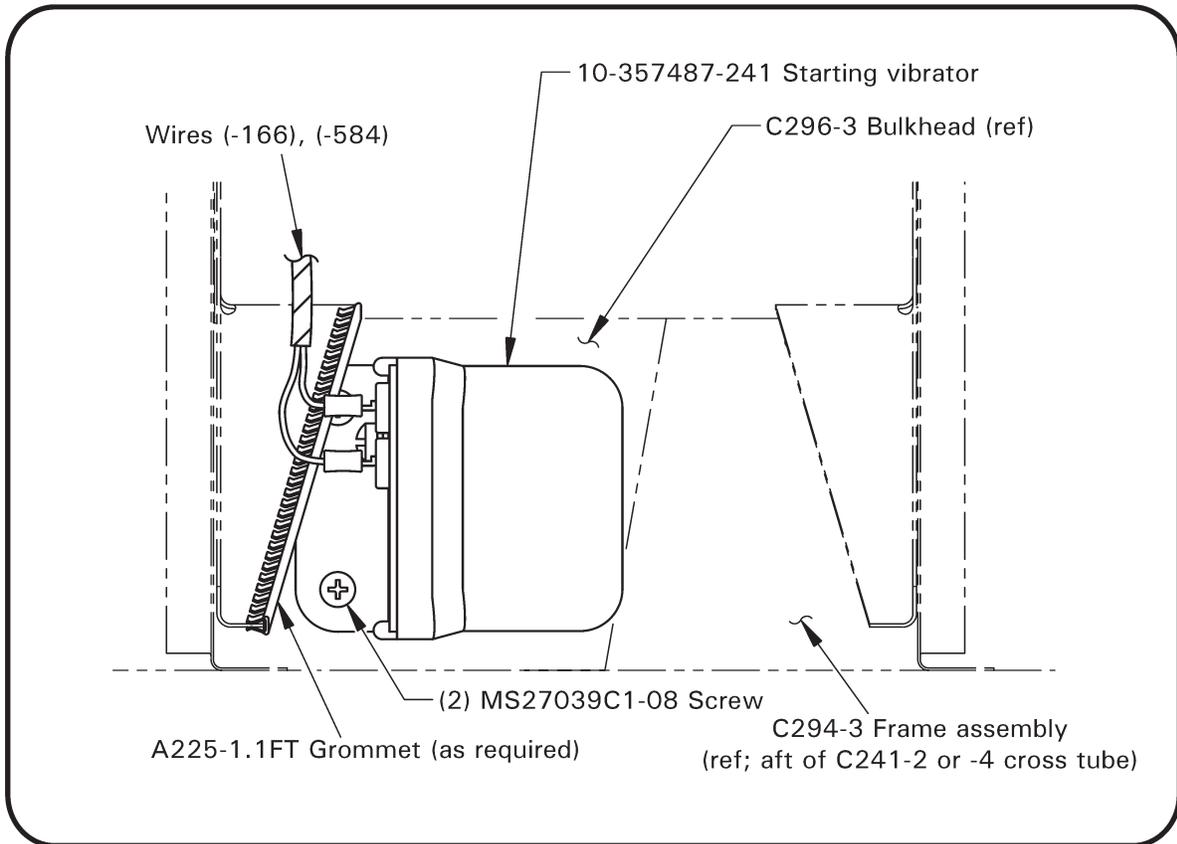

Figure 2B R44 & Cadet Starting Vibrator Installation
Refer to Figure 2B & IPC Figure 96-63B. Remove aft belly panel. Install starting vibrator (magneto start booster) onto C294-3 frame assembly (located on C296 bulkhead) using (2) MS27039C1-08 screws. Position and install A225-1 grommet, trimmed to 4.00 inches. Locate stowed wires (-166) & (-584) covered with black heat shrink, removing ty-raps as required. Remove heat-shrink covering wires (-166) & (-584). Connect airframe harness wires to starting vibrator (magneto start booster) as shown.